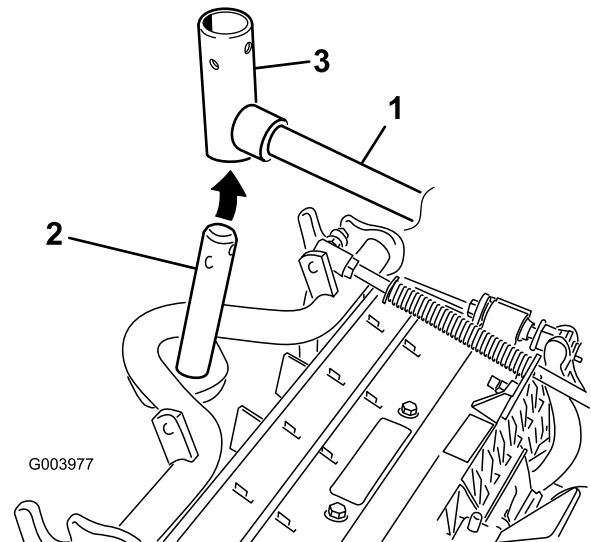

Figure 11
8. For the front cutting units, slide a cutting unit under the lift arm while inserting the carrier frame shaft into the lift arm pivot yoke (Figure 11).
- B. Insert the lift arm yoke onto the carrier frame shaft (Figure 11).